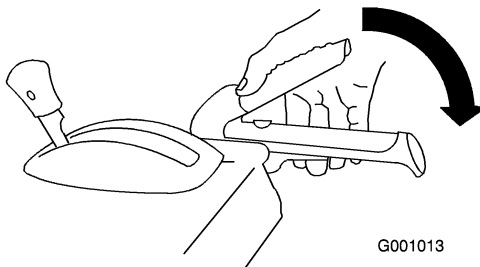

Figure 29
1. To engage the auger/ impeller drive, squeeze the right hand (auger/ impeller) lever to the handgrip (Figure 29).